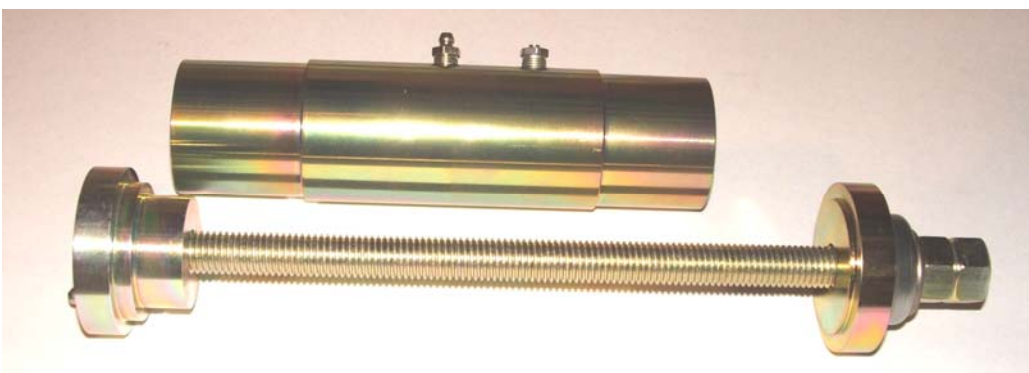

Fig. 4
Step 3. Using tool # TDK-12250 (see fig. 4) or a suitable equivalent puller, install the puller to press fit the tube into the spider channel and align. Tighten the puller assembly until the tube is fully seated.
<p>Step 3. Using tool # TDK-12250 (see fig. 4) or a suitable equivalent puller, install the puller to press fit the tube into the spider channel and align. Tighten the puller assembly until the tube is fully seated.</p>